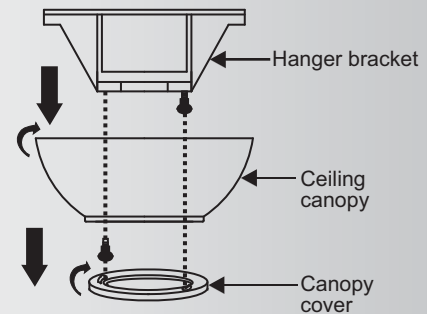

Fig. 5
Step 1. Remove the decorative canopy bottom cover from the canopy by turning the cover counter clockwise. (Fig. 5)
Step 2. Remove the ceiling mounting bracket from the canopy by removing (and save one of the two screws). Loosen the remaining screw by a half turn. (Fig. 5)